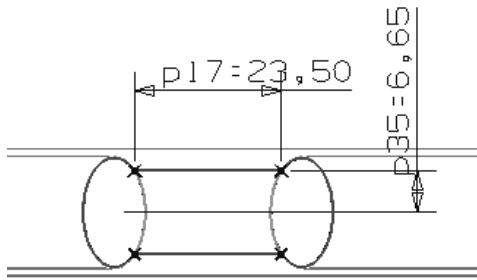

Figure 11-112 The first section curve drawn to create the through curve mesh surface
3. Select edges and create the profile, as shown in Figure 11-112. Exit the **Sketcher** environment.